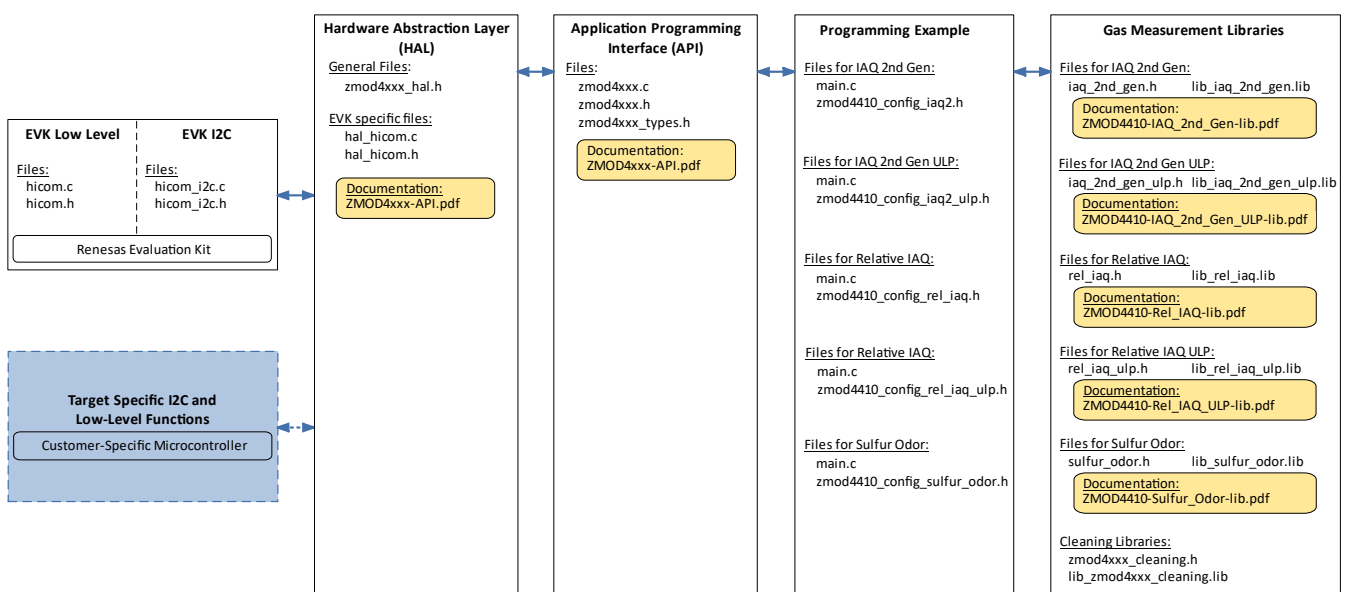

Figure 1. File Overview for ZMOD4410 Firmware
To operate the ZMOD4410 and use its full functionality, five code blocks are required as displayed in Figure 1:
1. The “Target Specific I²C and Low-Level Functions” block is the hardware-specific implementation of the I²C interface. This block contains read and write functions to communicate with the ZMOD4410 and a delay function. If the Renesas EVK is used, files for the EVK HiCom Communication Board are provided with the ZMOD4410 firmware packages. Using the user’s own target hardware requires implementing the user’s target-specific I²C and low-level functions (this is highlighted in light blue in Figure 1).
To set up a firmware for an Arduino target, Renesas provides the above-mentioned EVK examples also as Arduino examples. These examples have a similar structure as shown in Figure 1 but with a HAL dedicated for Arduino, an Arduino-compatible structure, and Arduino-specific files. An Arduino IDE with version 1.8.13 and higher is needed. The example supports SAMD 32-bit ARM Cortex-M0+ based Arduino-Hardware included in the SAMD Boards library. For example: